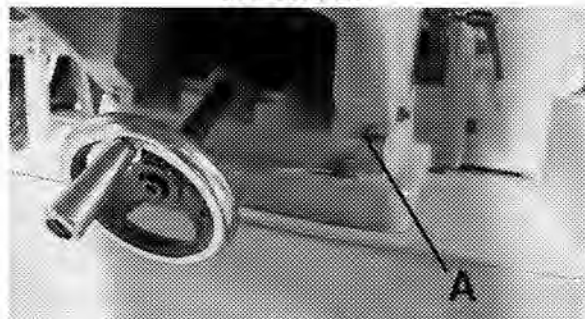

FIGURE 30
"Gibs" are provided to take up any play that may develop between the mating dovetail ways of the base and the infeed and outfeed tables, due to excessive wear. The gib for the infeed table is shown at (A) Fig. 30. Proper gib adjustment is necessary for the functioning of the jointer. The gib was adjusted at the factory and should not require any further adjustment. However, if it ever becomes necessary to adjust the gib due to excessive wear, proceed as follows: